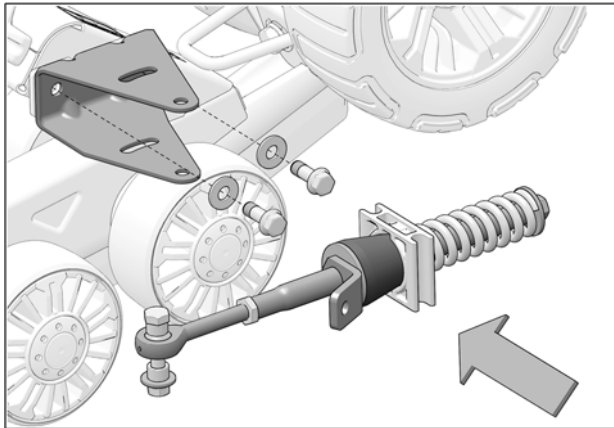

Fig. 20
5. Re-attach anti-rotation bracket using its assembly bolts and washers. Tighten bolts to 50 N•m [37 lb•pi] of torque. Replace anti-rotation arm back into position. See la Fig. 20